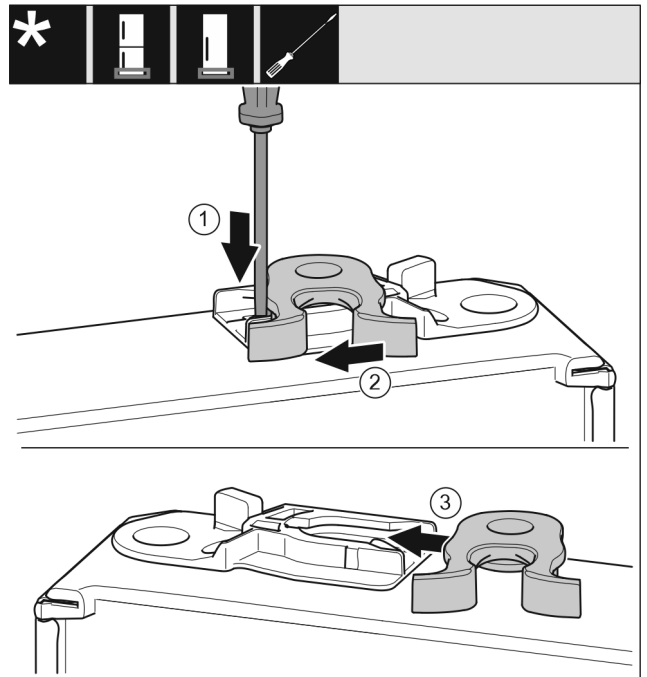

Fig. 26
- Use a slotted screwdriver to push the tab Fig. 26 (1) downwards.
- Pull the closing hook Fig. 26 (2) out of the guide.
- Insert the closing hook Fig. 26 (3) into the guide on the other side.